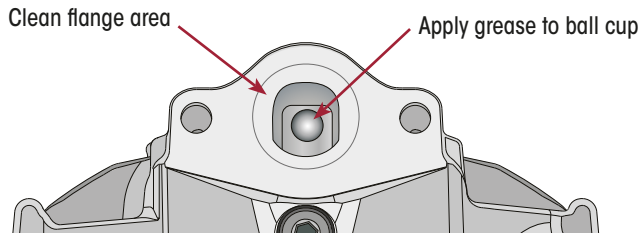

Figure 130: Clean & Lubricate Calliper Chamber Mount
2. Lubricate the brake lever ball cup with a white lithium-based grease before installing the brake chamber. Refer Figure 130.
4. Clean the brake calliper flange area to ensure a good seal to the brake chamber. Refer Figure 130.